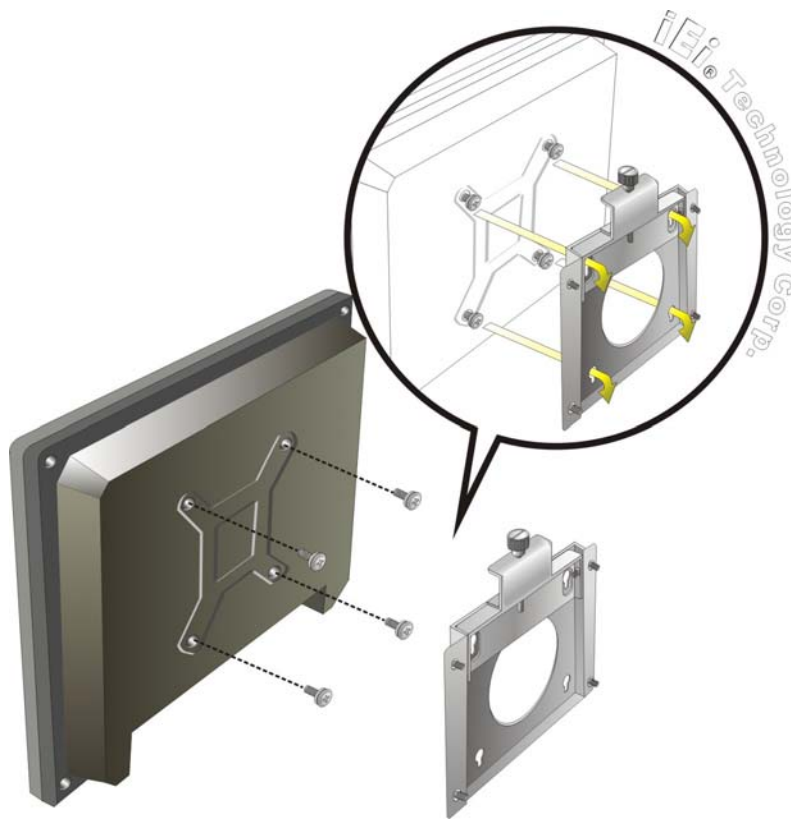

Figure 3-5: Chassis Support Screws
- Step 6:** Insert the four monitor mounting screws provided in the wall mounting kit into the four screw holes on the rear panel of the flat panel PC and tighten until the screw shank is secured against the rear panel (**Figure 3-5**).
- Step 8:** Carefully insert the screws through the holes and gently pull the monitor downwards until the monitor rests securely in the slotted holes (**Figure 3-5**). Ensure that all four of the mounting screws fit snugly into their respective slotted holes.